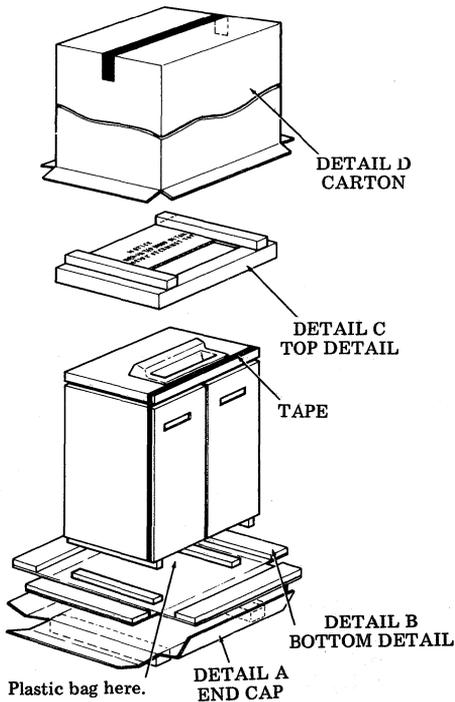

Fig. 12—Forms Access Printer Cabinet Carton Lifted Up
3.13 Lift carton up and off of forms access printer cabinet. Remove plastic bag covering cabinet. Remove tape, packing details A, B, C and D and plastic bag from bottom of cabinet (Fig. 12).